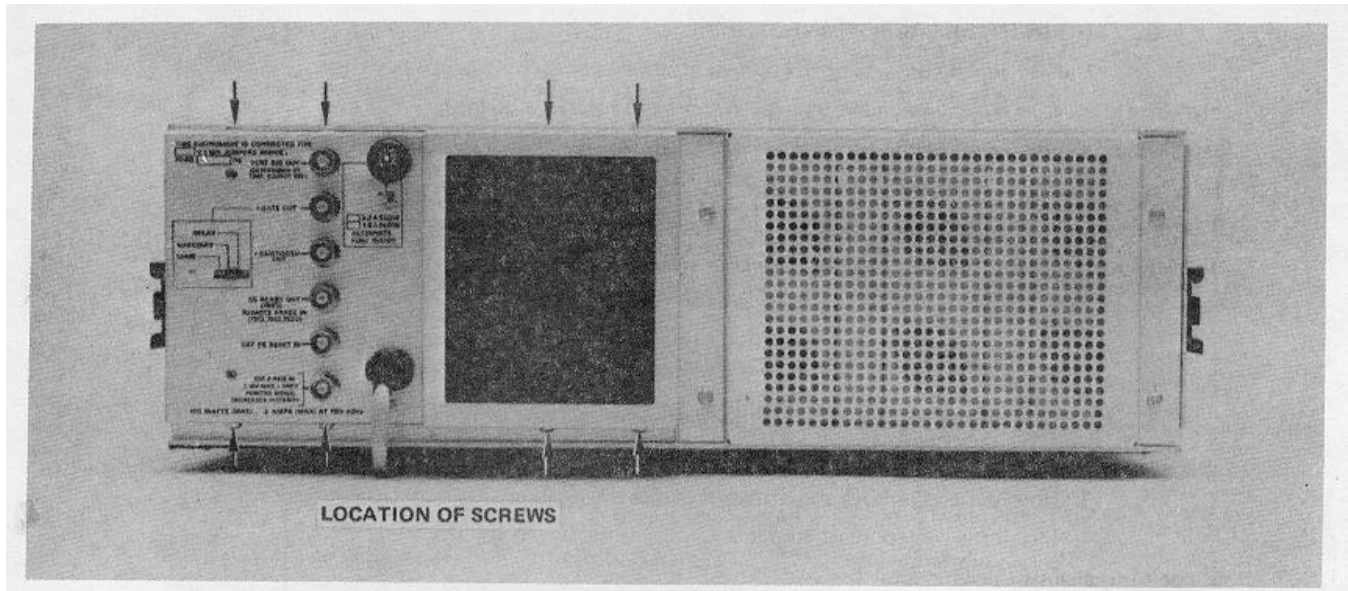

Figure 4-6. Location of screws holding Signals Out mar panel
1. Remove the eight screws holding the Signals-Out rear panel to the chassis. Pull rear panel out as far as cables will permit (see Fig. 4-6).